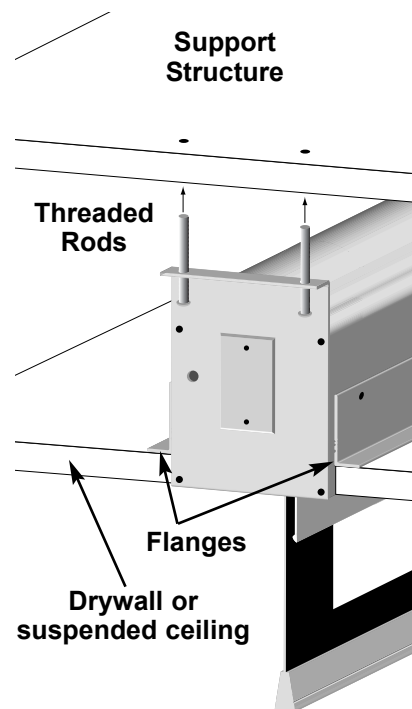

Figure 2: Recessed or concealed mount
3. Drywall or other ceiling material may be screwed directly to the ceiling flanges (plaster “ears”) on the case. Refer to Figure 2.